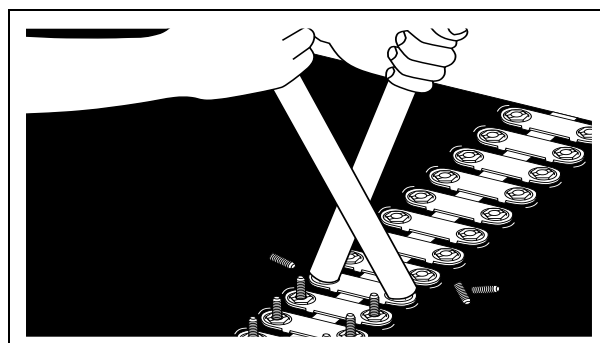

Figure 4O
12. Break off excess bolt ends using the two (2) bolt breakers. On belts thicker than 3/8" rubber covers, retighten all nuts after a few hours of running. Grind sharp edges of broken bolt ends until they are smooth and do not protrude. (See Figure 4O.)